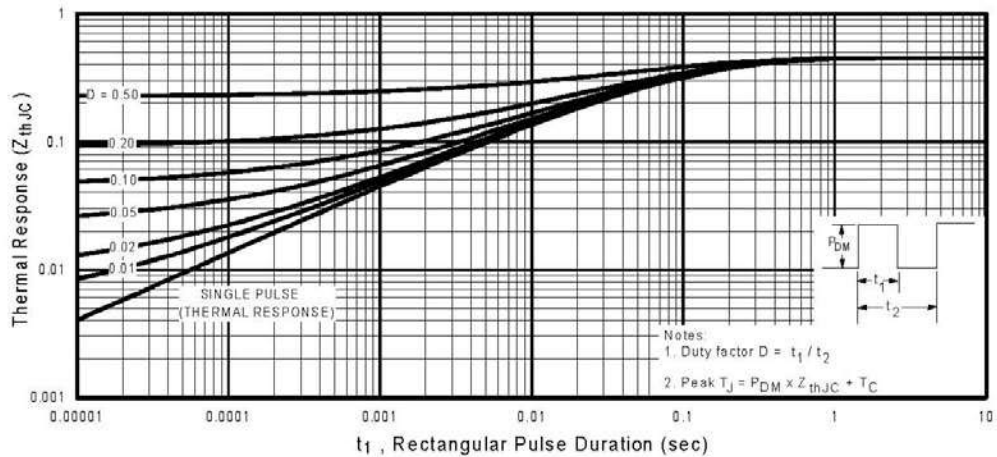

Fig 11. Maximum Effective Transient Thermal Impedance, Junction-to-Case
① Repetitive rating: pulse width limited by max. junction temperature. (See fig. 11)
② $I_{SD} \leq 16A, di/dt \leq 140A/\mu s, V_{DD} \leq V_{(BR)DSS}, T_J \leq 150^\circ\text{C}$
③ $V_{DD} = 25V$, starting $T_J = 25^\circ\text{C}, L = 7.2\text{mH}$